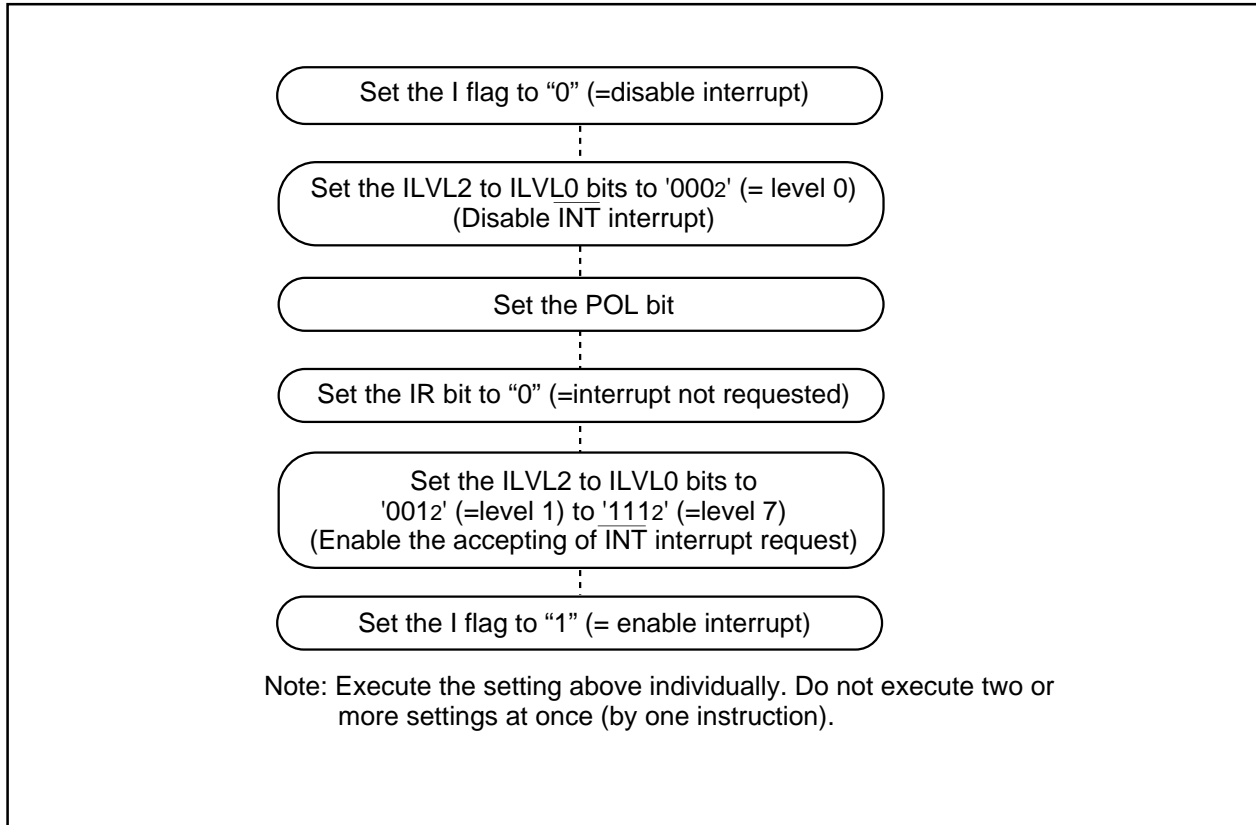

Figure 1.1.1. Procedure for Changing the  $\overline{INT}$  Interrupt Generate Factor
2. When the polarity of the  $\overline{INT0}$  to  $\overline{INT5}$  pins is changed or the interrupt request cause of the software interrupt numbers 8 to 9 is changed, the IR bit is sometimes set to “1” (interrupt request). After these changes were made, set the interrupt request bit to “0” (no interrupt request). Figure 1.1.1 shows the procedure for changing the  $\overline{INT}$  interrupt generate factor.